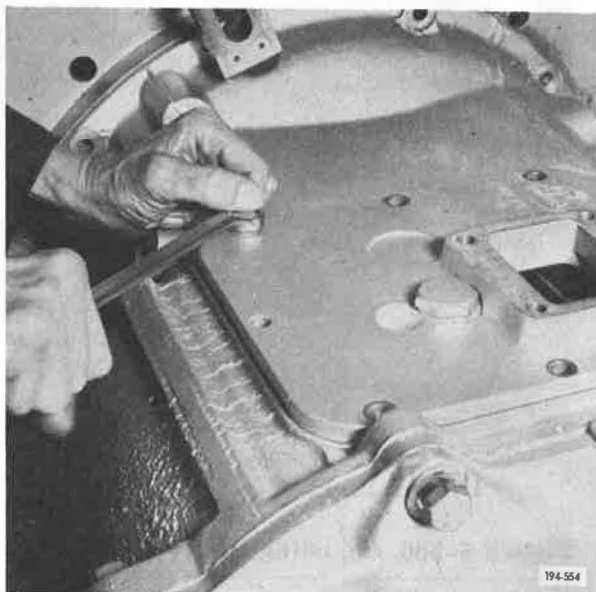

Figure 5-554. Installing Capscrew
30. Install front case top cover capscrews, and tighten to recommended torque. See Figure 5-554. Refer to Torque and Tolerance Table, Item 3.